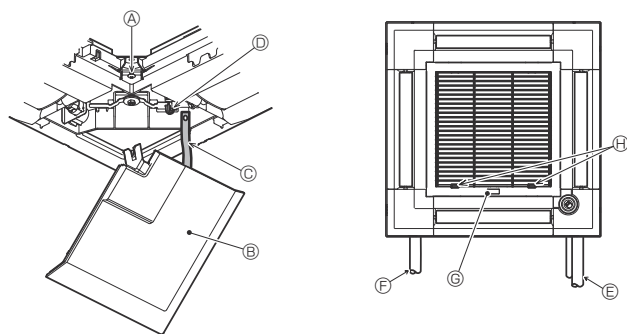

Fig. 11
5. Installing the intake grille (Fig. 11)